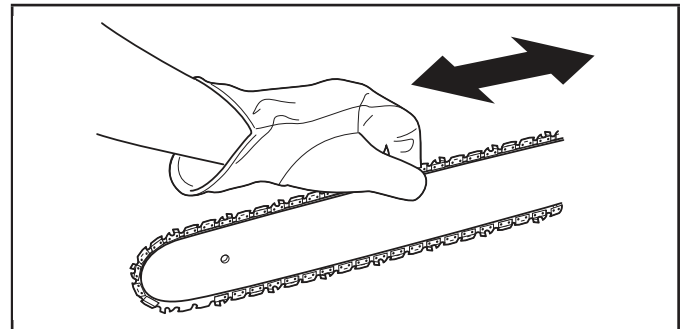

Figure 27
4. Wearing protective gloves, hold the guide bar tip up and move the saw chain back and forth along the guide bar (Fig. 27). Make sure the saw chain moves freely and is properly meshed with the sprocket. If the saw chain does not move easily, slowly turn the chain-tensioning screw counterclockwise to loosen the saw chain. The saw chain will not move if the chain brake is engaged.